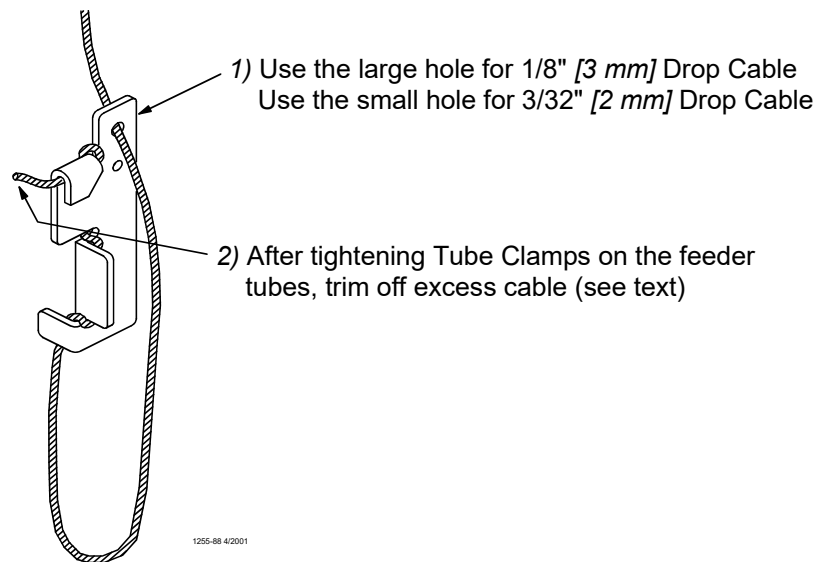

Figure 28. Cable Lock Threading
6. Install Adjustment Leveler within 6" [152 mm] of feeder line. **Figure 28.** shows the proper cable routing around the Adjustment Leveler.
Finally, tighten the Tube Clamps on the feeder tubes. Clamp the joints securely, but do not crush the tubes. Re-adjust all Adjustment Levelers as needed and trim off excess cable as shown in **Figure 28**.